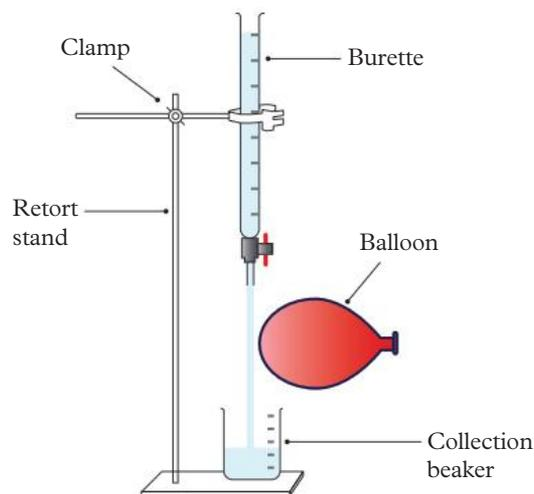

FIGURE 1 How to set up the burette to test polarity
- 1 Set up four burettes with an empty beaker underneath each (Figure 1).